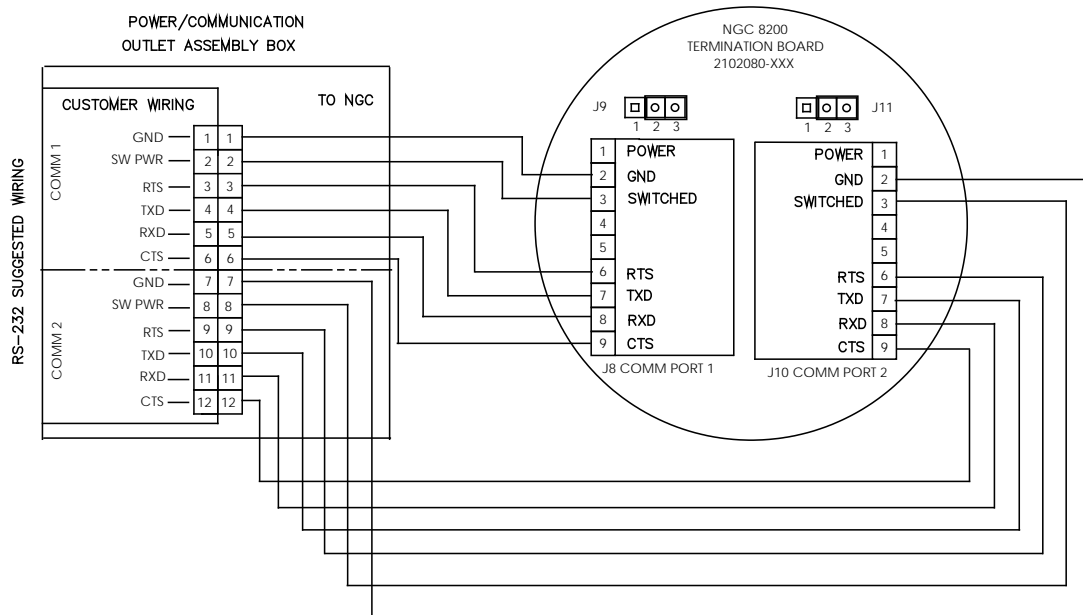
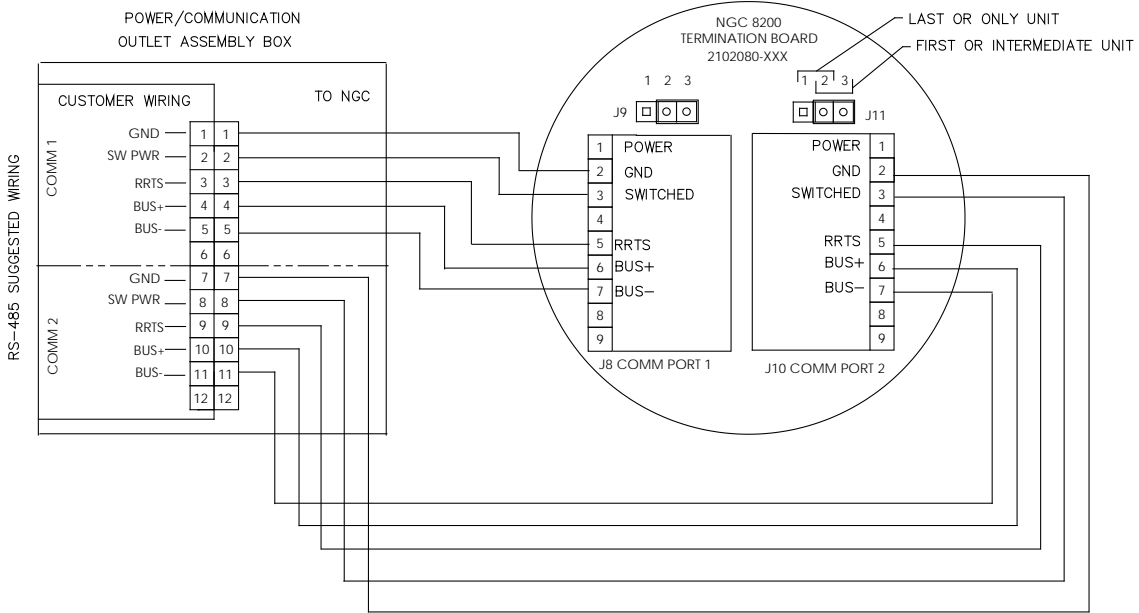
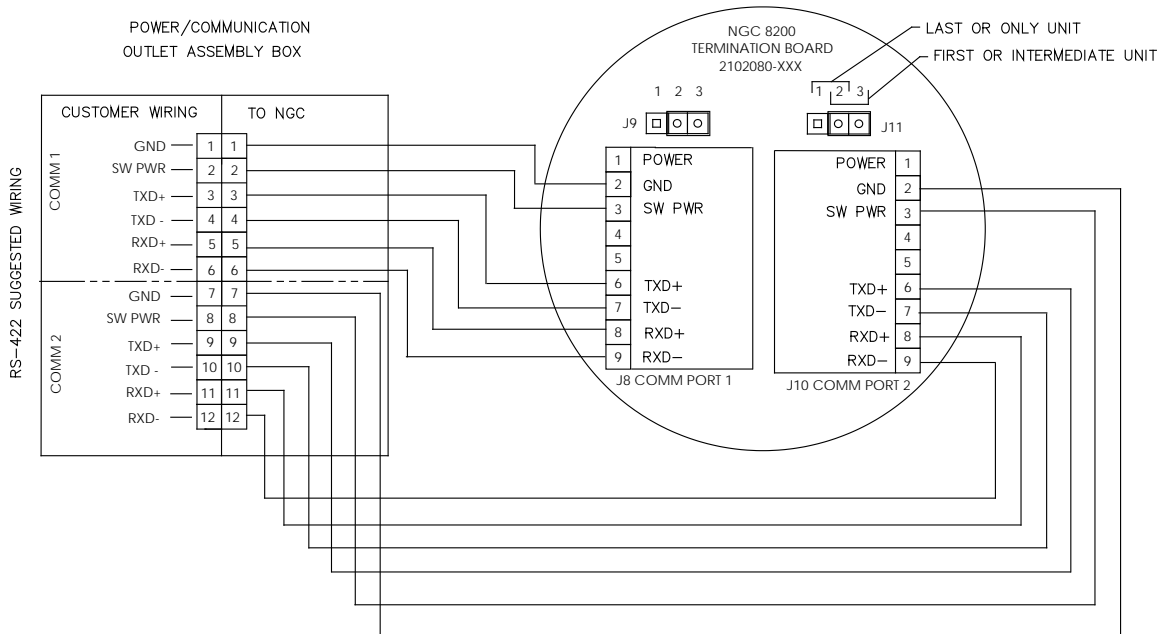

Figure 3-32 Suggested RS-232 Wiring Instructions
Figure 3-33 Suggested RS-485 Wiring Instructions
Figure 3-34 Suggested RS-422 Wiring Instructions
- 45) Using the wiring instructions in Figure 3-32 (RS-232), Figure 3-33 (RS-485) or Figure 3-34 (RS-422), make field connections to plug NGC termination panel com port(s), and re-insert into the corresponding connector in the termination panel.